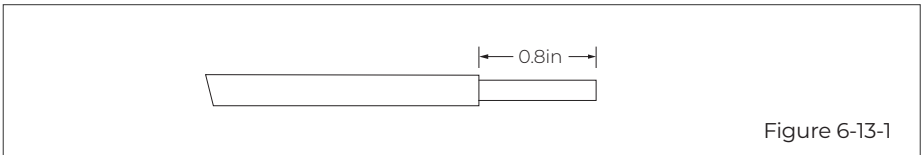

Figure 6-13-1
Step 1: Select the appropriate type and size of cables (see table 7-2). Strip the cables with a length of 0.8 inches, as shown in Fig. 6-13-1.